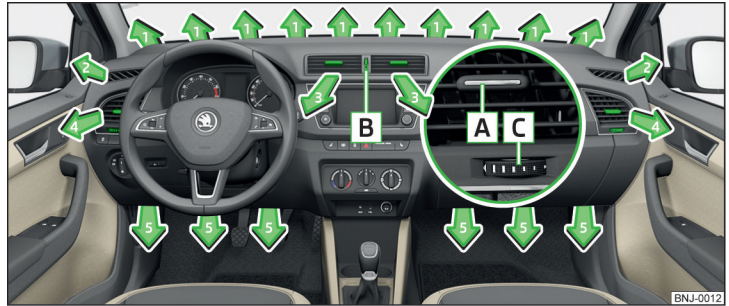

Fig. 119 Air outlet vents
The direction of airflow can be adjusted using the air outlet vents 3, 4 » Fig. 119, the outlets can be opened and closed individually.
- To change the height of the air flow, turn the horizontal fins upward or downward using the movable adjuster [A] » Fig. 119.
- Turn the regulator [B] upwards » Fig. 119.
- Turn the regulator [B] downwards » Fig. 119.
Set the direction of the air outlet	Active air outlet vents » Fig. 119